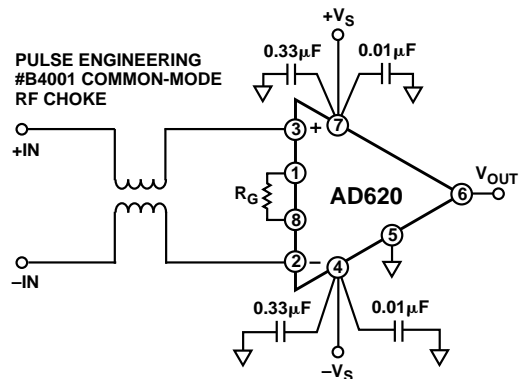

Figure 59. Using a Commercial Common-Mode RF Choke for RFI Suppression.
As an alternative to using an RC input filter, a commercial common-mode RF choke may be connected in front of the AD620 series in-amps as shown in Figure 59. A common-mode choke is a two-winding RF choke using a common core. Any RF signals that are common to both inputs will be attenuated by the choke. The common-mode choke provides a simple means for reducing RFI with a minimum of components and it provides a greater signal passband, but the effectiveness of this method depends on the quality of the particular common-mode choke being used. A choke with good internal matching is preferred. Another potential problem with using the choke is that there is no increase in input protection as is provided by the RC RFI filters.
Using the RF choke specified, at a gain of 1000, and a 1 V p-p common-mode sine wave applied to the input, the circuit of Figure 59 reduces the dc offset shift to less than 4.5 microvolts RTI.
**Table VI. AC CMR vs. Frequency, Using the Circuit of Figure 59**